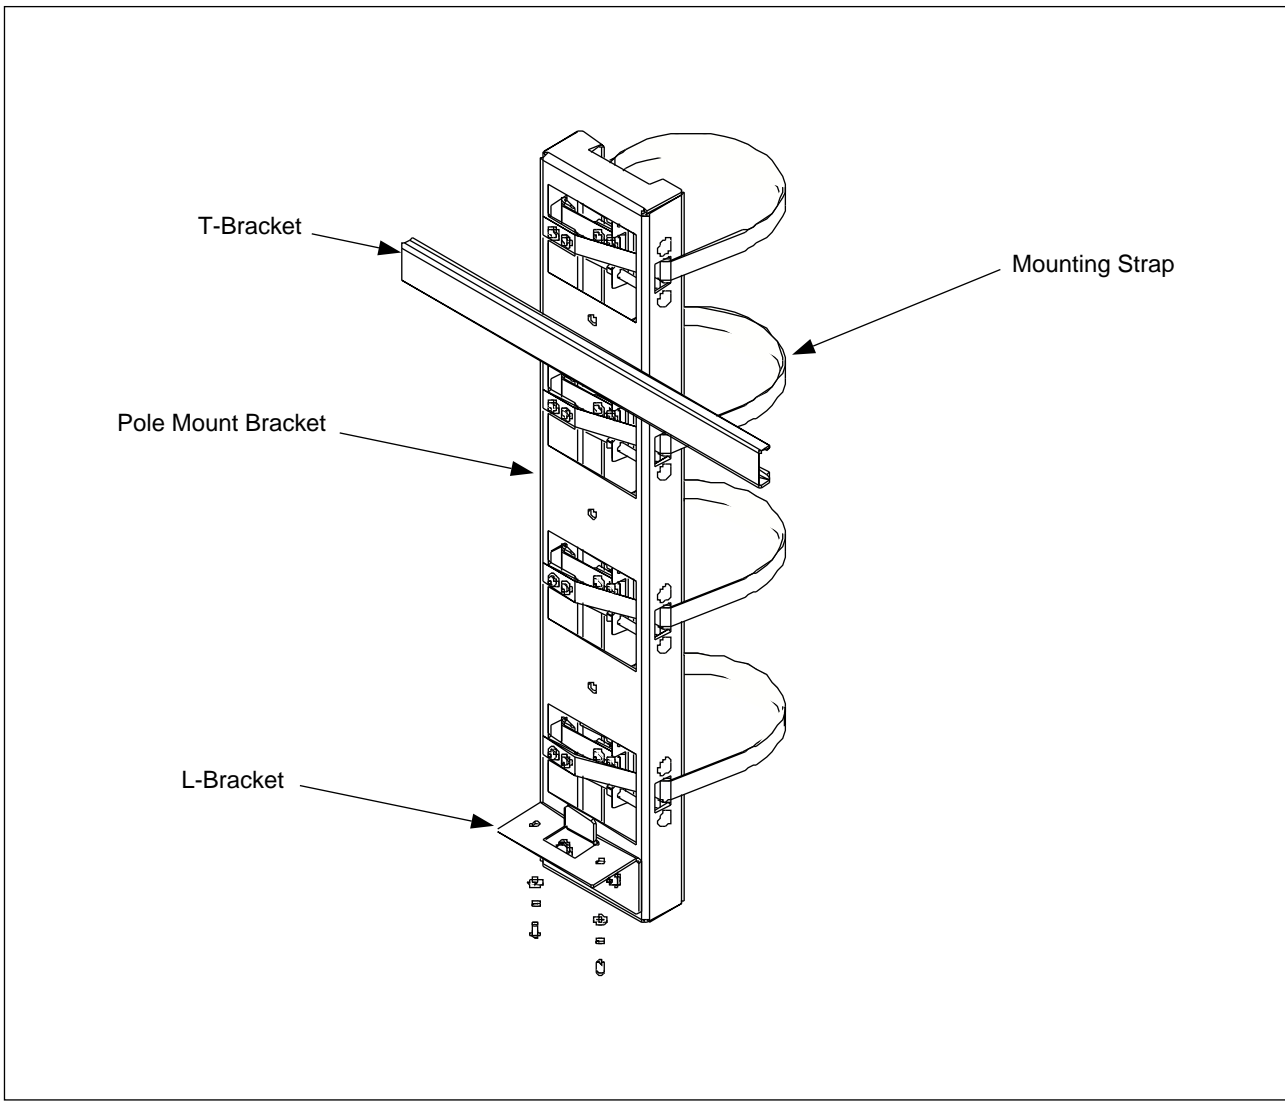

Figure 4-4. Pole-Mount Assembly
2. Identify the mounting bracket, straps, strap tension brackets, and mounting hardware. A fully assembled Pole Mount is shown in Figure 4-4 on page 4-16.
11. Loosely attach the L-bracket to the pole mount assembly using two screws, two lock washers, and two flat washers. See Figure 4-4 on page 4-16 for the position of the L-bracket on the pole mount assembly.